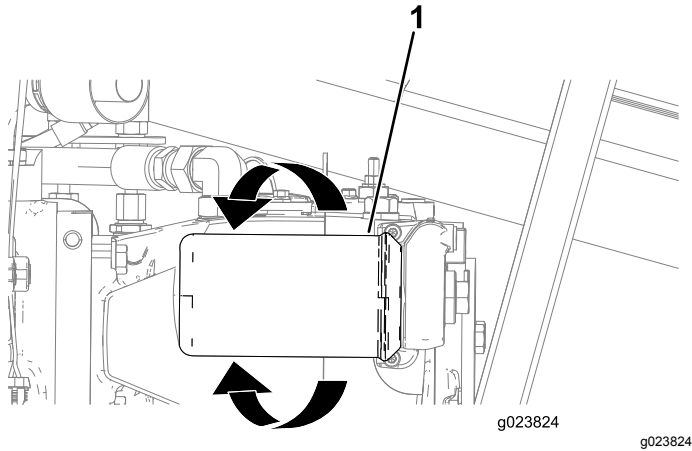

Figure 126
3. Align a drain pan or several rags under the charge filter (Figure 126).
4. Rotate the charge filter counterclockwise and remove the filter (Figure 126).
6. Align the charge filter to where it seats, and rotate it clockwise until the seal of the filter contacts the adapter (Figure 126).